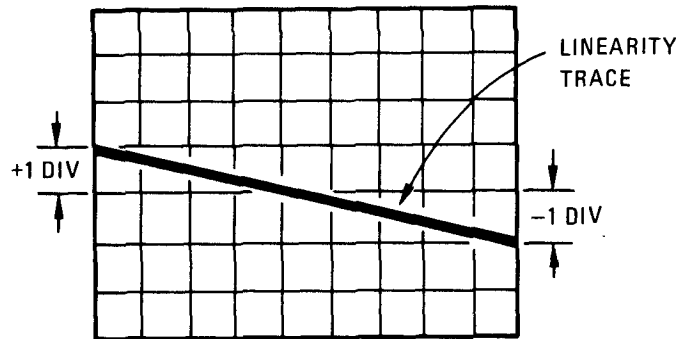

Figure 5-12. FM Linearity Display
4. Set variable-phase generator's reference phase output for a 1 kHz signal at an amplitude that gives a 2.56 MHz peak deviation indication on the Signal Generator's panel meter. Set linearity circuit's voltage divider switch to 100. Adjust generator's variable phase output's phase for a straight line on the display as shown in Figure 5-12. Adjust oscilloscope's vertical gain for ± 1 division at edge of display.